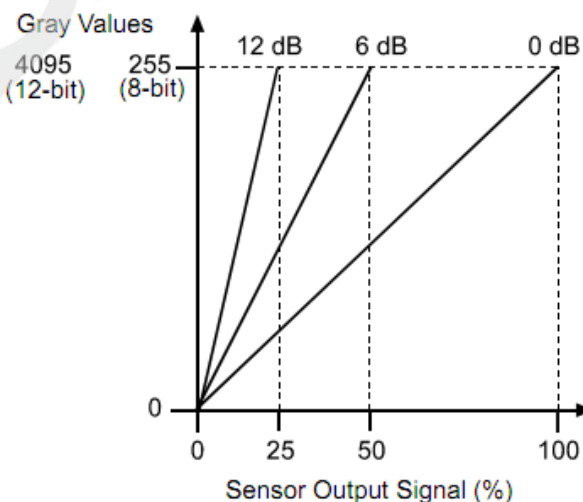

Figure 8-35 The camera's response curve
- When the analog gain changes, the response curve of the camera changes, as shown in Figure 8-35. The horizontal axis represents the output signal of the sensor in the camera, and the vertical axis represents the gray value of the output image.